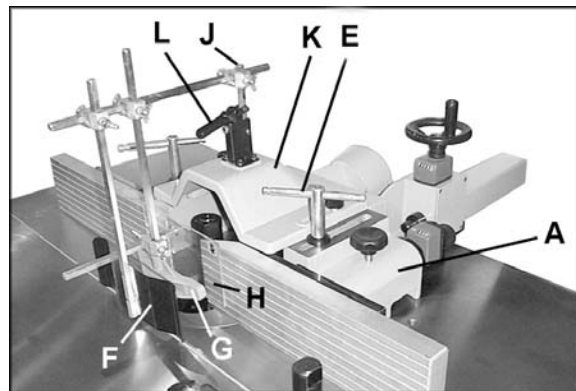

Figure 7
1. Place the fence body (A, Figure 7) on the table. Mount the two fence locking handles (E, Figure 7) with washers, and secure fence to table using one of the two sets of holes on the table.
3. Mount the cover plate (K, Figure 7) using the two locking knobs and flat washers.
The guard assembly can be mounted in various configurations, depending upon the type of work being done. Figure 7 shows one such configuration.
1. Mount the spring guard (F, Figure 7), hold-down (G, Figure 7) and clear plastic guard (H, Figure 7) to mounting rod (J, Figure 7) located on top of fence cover (K, Figure 7), using rod and clamps. The latch on the mounting rod (L, Figure 7) can be pushed down to help secure the guards in place.
2. The spring guard (F, Figure 7), hold-down (G, Figure 7) and clear plastic guard (H, Figure 7) can be flipped up out of the way when not in use or when making adjustments. Simply pull up the latch (L, Figure 7) and flip the entire assembly to the back.